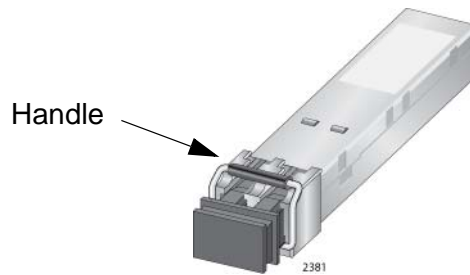

Figure 113. Handle on an SFP or SFP+ Transceiver
2. If you are installing the transceiver in transceiver slot 0 or 2, orient it with the handle on top, as shown in Figure 113 on page 181. To install it into transceiver slot 1 or 3, orient it with the handle on the bottom.